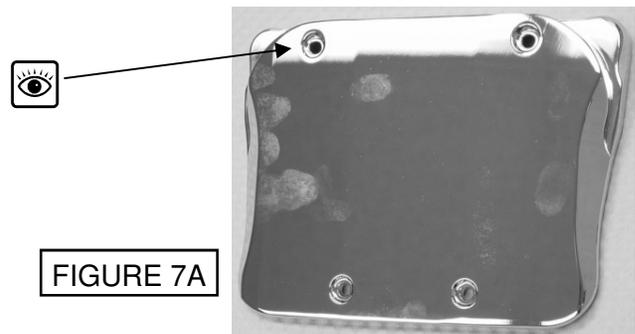

FIGURE 7A
13. Fully insert an o-ring (shown in FIGURE 7) into each recessed hole in the rocker box lid (see FIGURE 7A). Make sure each o-ring is fully seated in the hole for proper alignment.